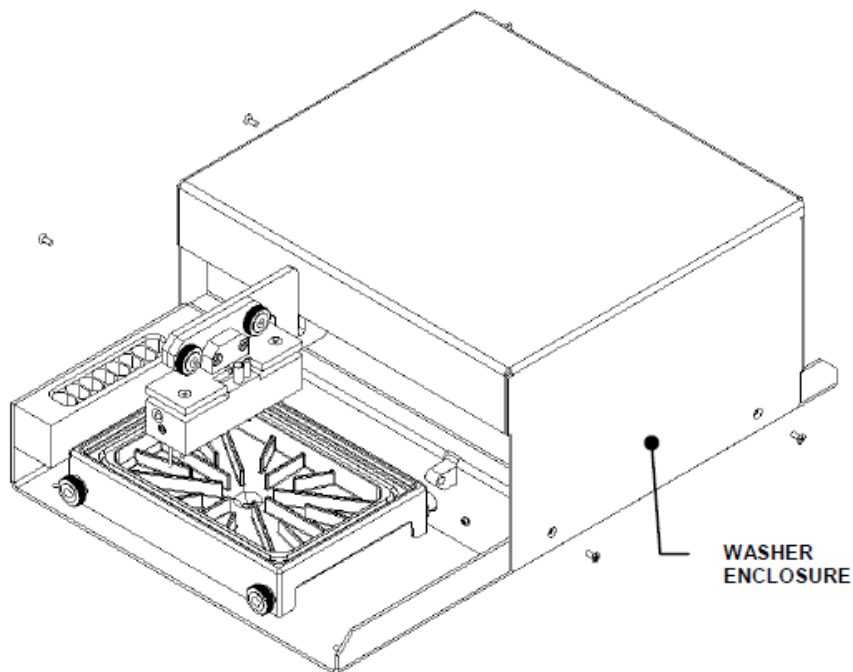

Figure AA-4: Removal of Washer Enclosure
2. Remove the four screws that attach the enclosure to the baseplate (Figure AA-4).